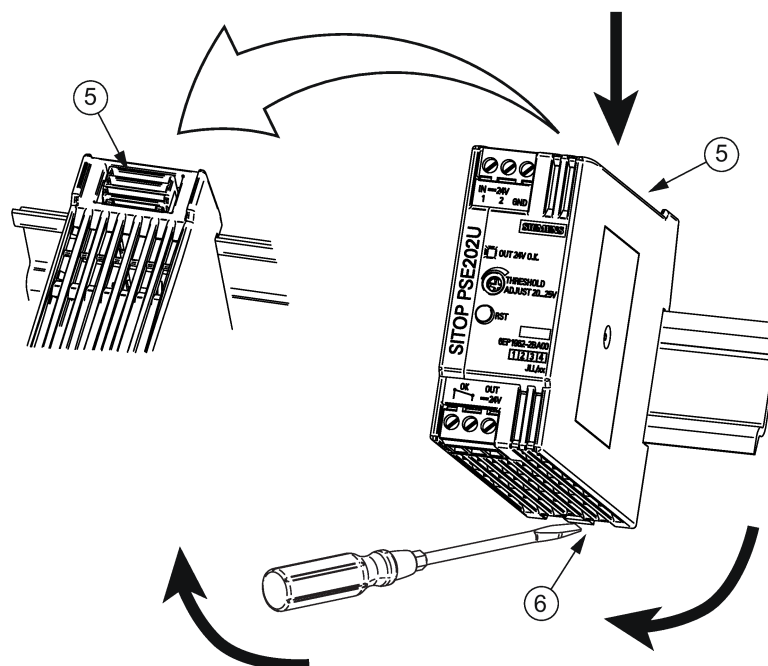

Figure 3-4 Mounting/removal
To remove, pull up the slider ⑥ using a screwdriver (see Figure 3-4 Mounting/removal (Page 57)) and disengage the device at the bottom edge of the standard mounting rail. Then you can remove the device from the upper edge of the standard mounting rail.